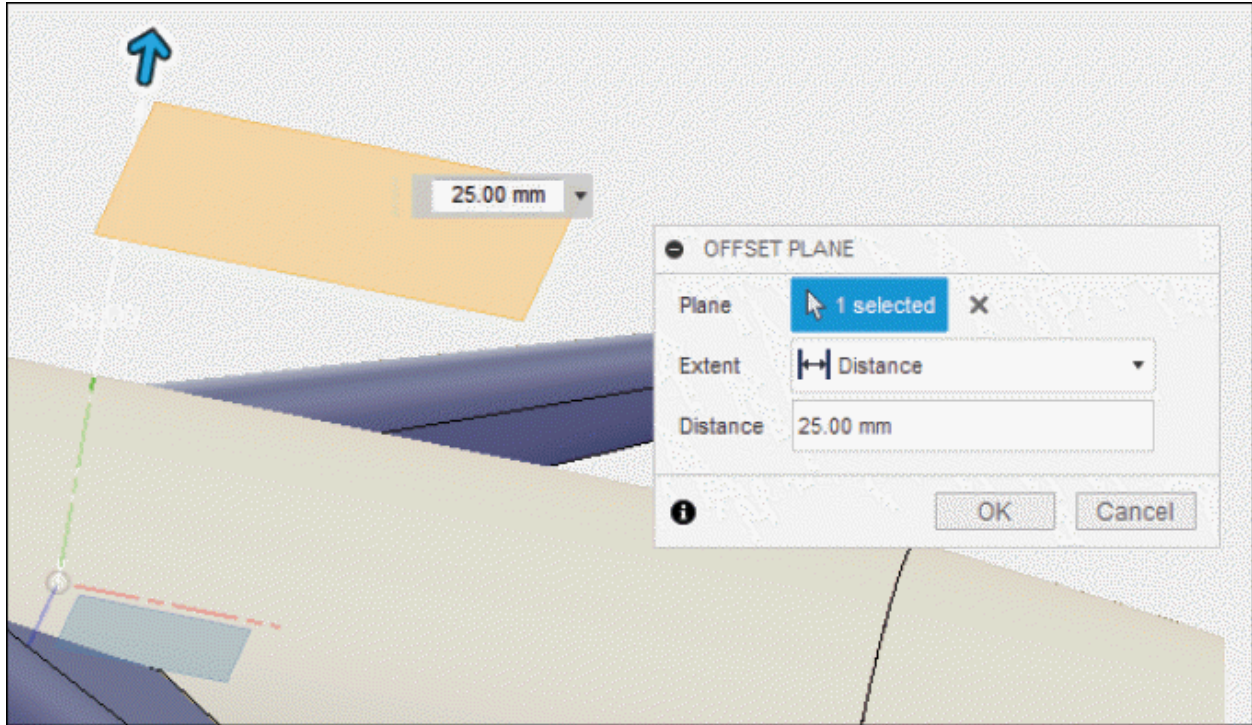

Figure-58. Creating offset plane for third rear wing
- Click on **Offset Plane** tool from **CONSTRUCT** drop-down and create a plane with **XY** plane as reference; refer to Figure-58.